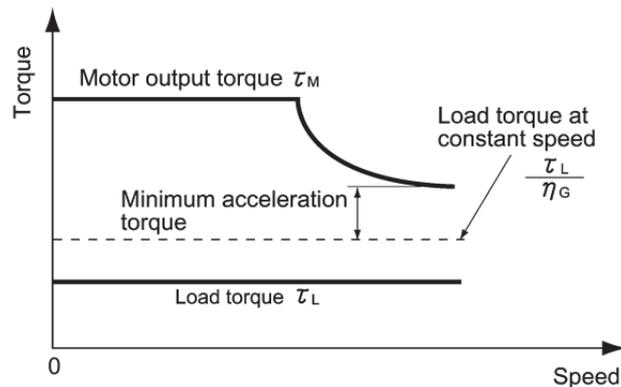

Figure 10.2-2 Example Study of Minimum Acceleration Torque
2) Calculate the minimum acceleration torque (See Figure 10.2-2)